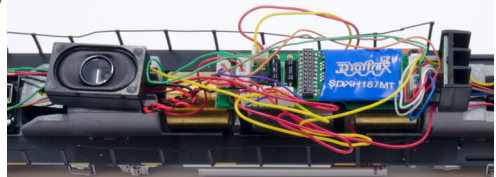

Figure 3: Carefully plug in decoder. (Shown with optional SP2615BC speaker).
3. Insert the 21MTC socket onto the exposed pins. The black socket and the decoder text should be facing up. The socket is indexed so it will only fit in one configuration. (**Figure 3**) Seat the decoder firmly on the pins.